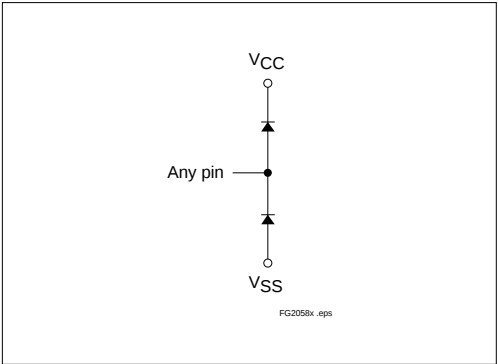

Figure 4. Internal Protection Diodes
- 2. Internal protection diodes are in place on every pin relative to V_{CC} and V_{SS}. See Figure 4.